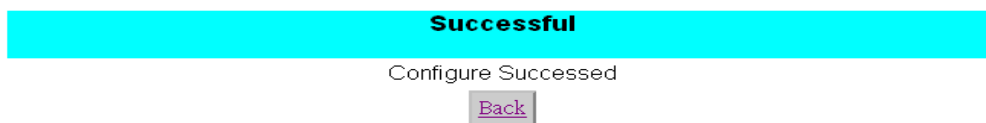

Figure 3.25 Configure success
2. If the update is successful, the following screen appears.(Figure 3.25)